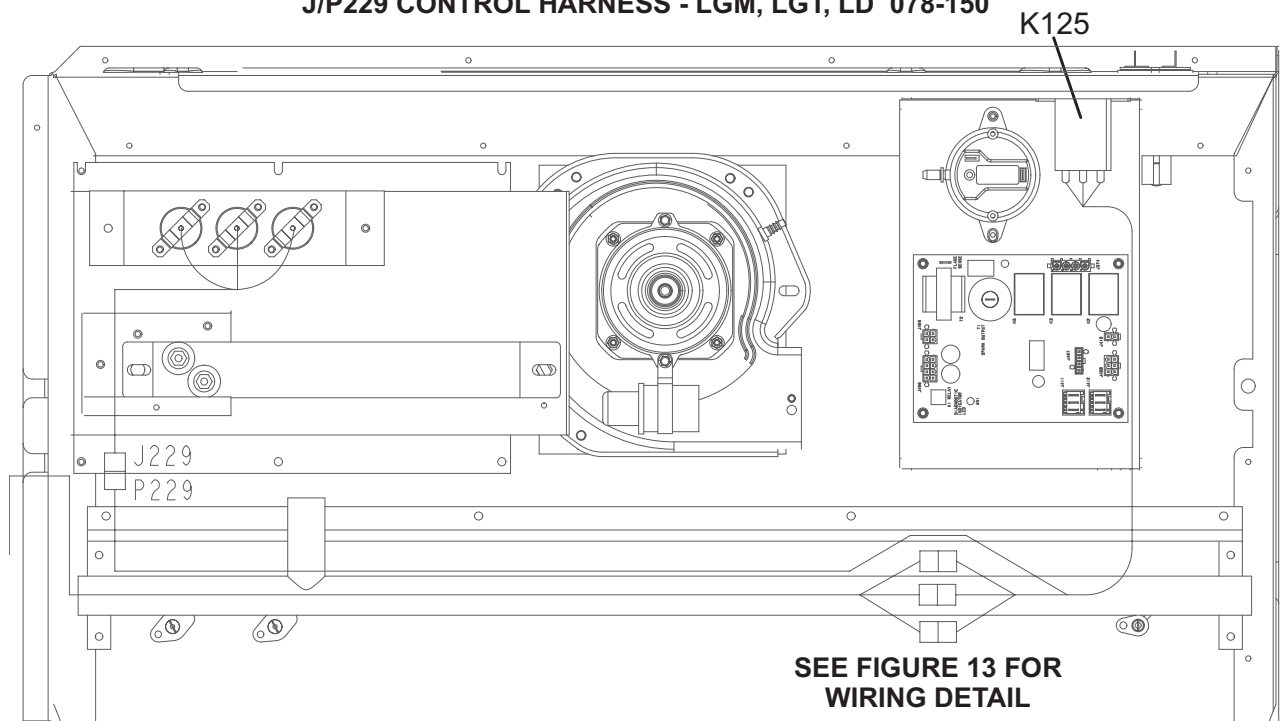

FIGURE 12
- 8 - Locate kit control harness that has a 6-pin, 4-wire connector labeled P229. Connect P229 to J229 cold weather kit harness. See FIGURE 12.